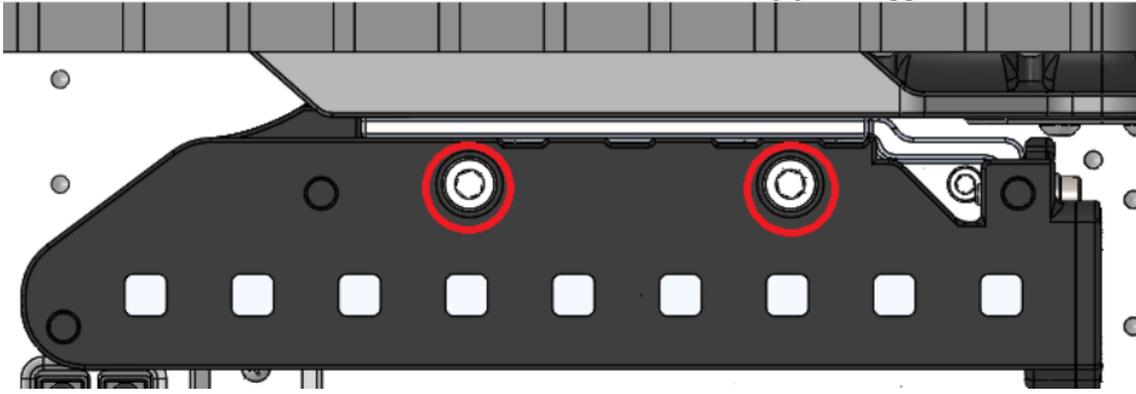

Figure 6. Underside location of M8 screws for Magnet Bay height adjustment.
3. Locate the pair of M8 bolts, found through the bottom face (Figure 6).